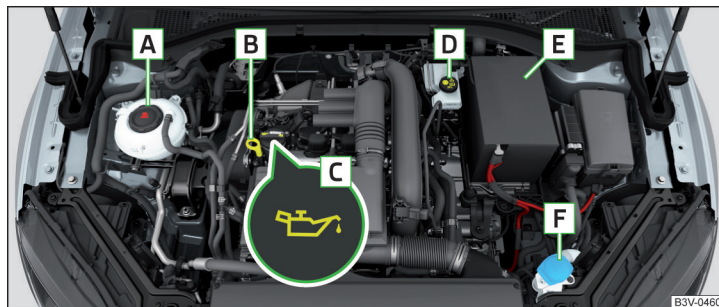

Fig. 318 Arrangement example in the engine compartment
- › Unscrew the cap of the engine oil filler opening **C** » Fig. 318 on page 270.